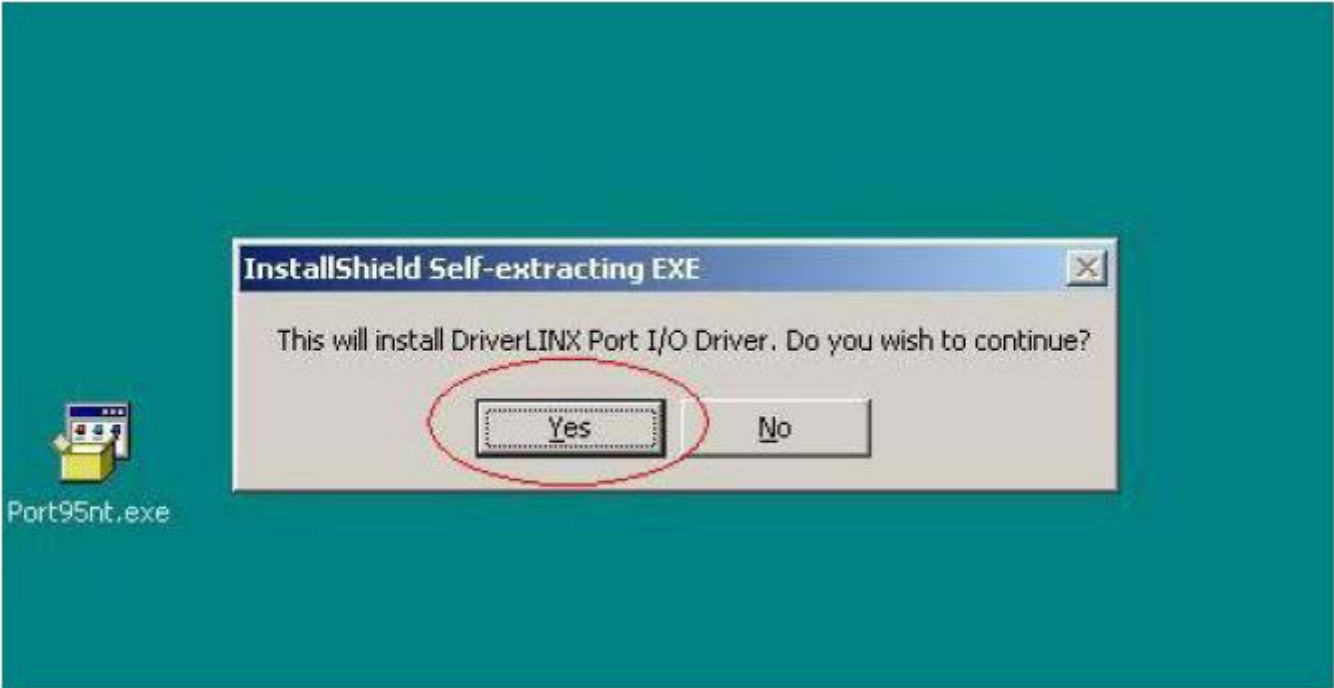

Fig 0.1
0.1 Double-click the “ PORT95NT.exe” in Windows & install the program. , see Fig 0.1